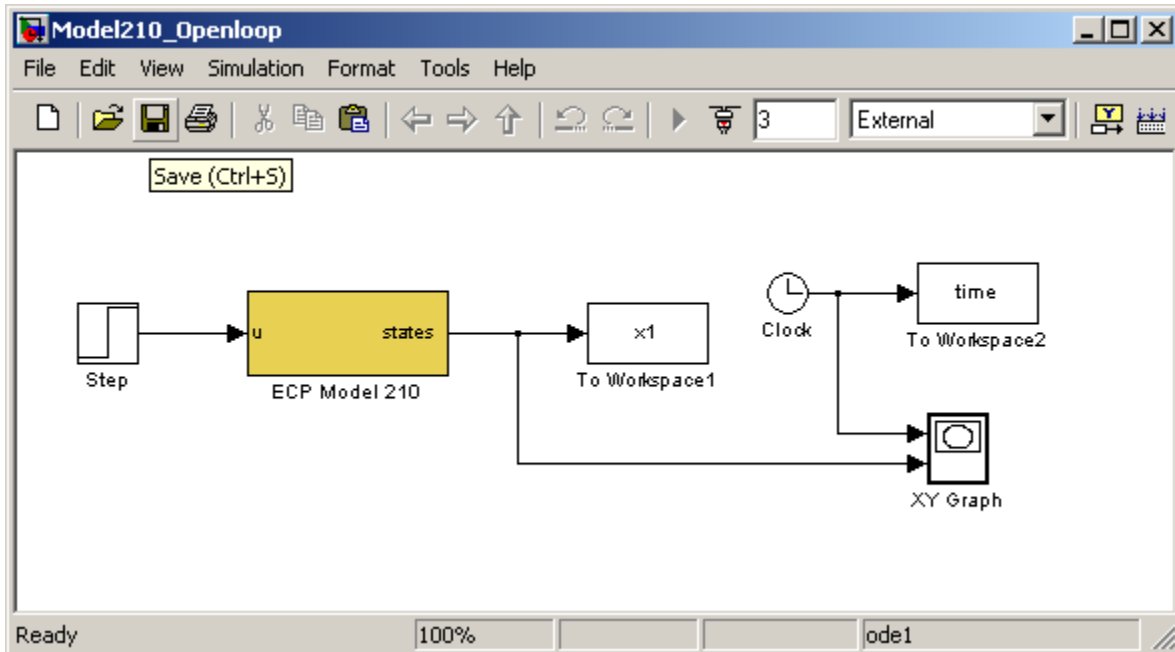

Figure 6: Model210_Openloop.mdl
3. Open up the Simulink file, **Model210_Openloop.mdl**, it should look like Figure 6. The yellow block in the middle is what actually connects to the ECP system. Note that the output of this system is labeled x_1 , the cart position. **Do not change this!**
5. Change the input to the system by double clicking on the **Step** block in Figure 6. To start, enter a small step amplitude or input value such as **0.05**. This value is small because some of the systems have a static gain of more than 40 and the cart should not move more than a couple of centimeters. ***You may have to increase the step input to get your particular system to have a steady state value of at least 1 cm.*** Click **OK** and then save the file.